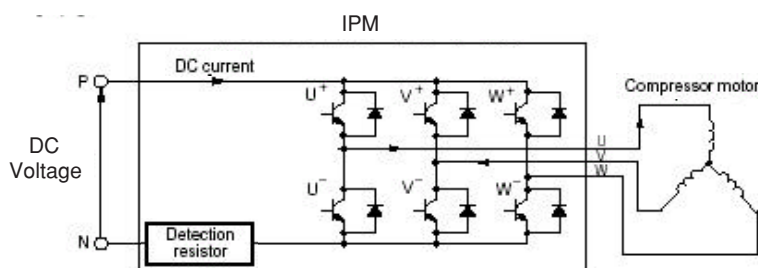

Fig. 6-6
- (1) Turns on the power module's U+ and V- transistors so the current flows to the motor windings as shown in Fig. 6-6.
- (2) Varies the turn-ON time of the W+ transistor according to the DC voltage level and the start is controlled so the start current is approx. 10A .